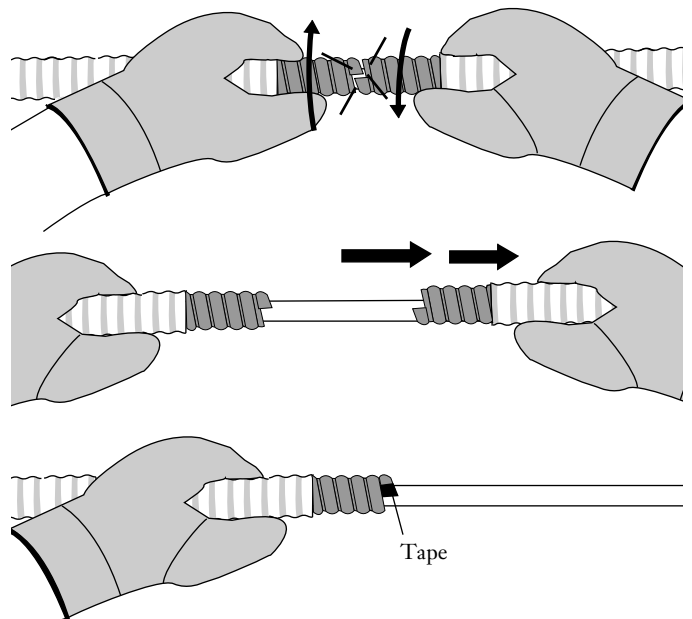

Figure 8
4.8 Holding the cable on both sides of the cut, twist the cable to separate the armor. Remove the armor and outer sheath from the free end of the cable by sliding it off (Figure 8).